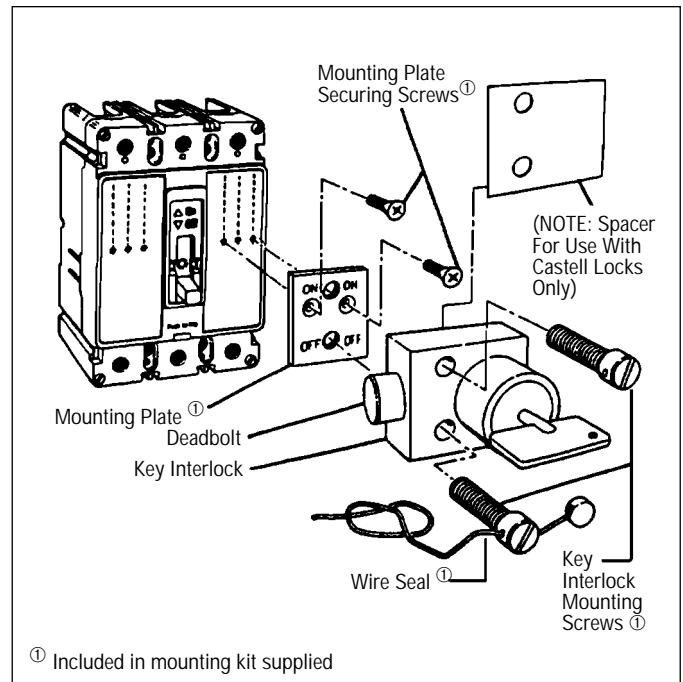

Figure 2-2 Key Interlock Installation
key interlock supplied by the customer. The mounting kit comprises a mounting plate, which is secured with special screws to the circuit breaker cover in either the left- or right-pole position, key interlock mounting screws, and wire seal (see Figure 2-2). Specific mounting kits are required for individual key interlock types and are listed in Frame Book 29-101.
Step 3: Position mounting plate on circuit breaker cover. Line up mounting holes, see Figure 2-2.
Step 5: Position key interlock (deadbolt in withdrawn position) on mounting plate. Line up mounting holes. (See Figure 2-2.)